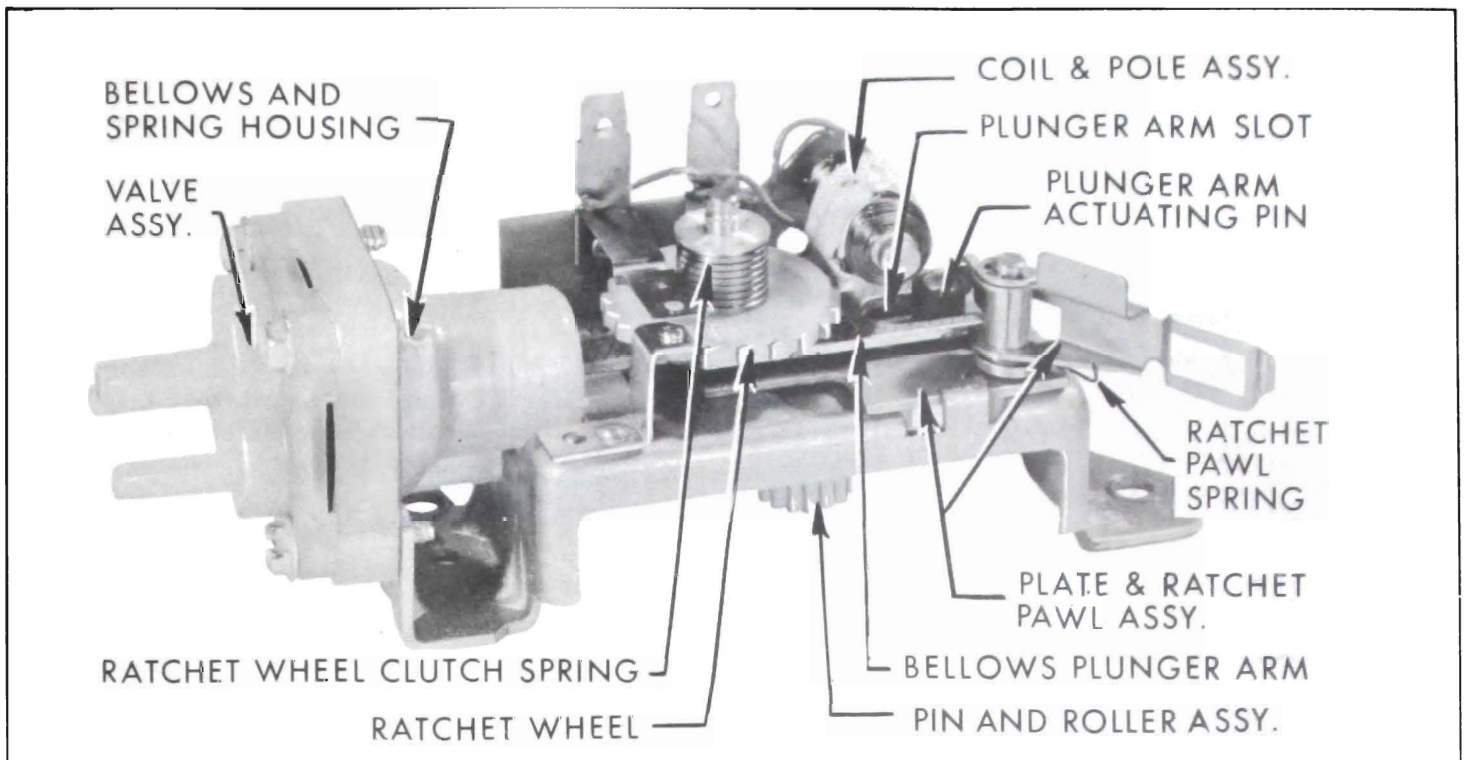
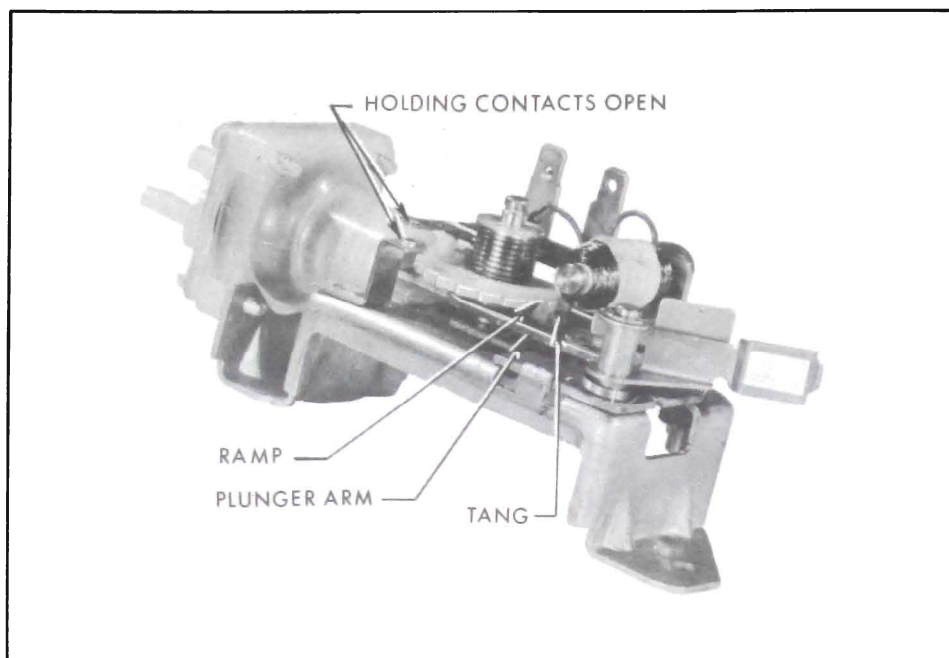

Figure 10-101—Washer Pump with Cover Removed
Figure 10-103—Washer Pump Actuating Mechanism
and ratchet wheel arrangement. See Figure 10-101.
Figure 10-101. Thus, with the wiper running, the 4 lobe cam rotates continuously and actuates the plate and ratchet pawl assembly back and forth in a horizontal plane. A second pin, attached to the plate and ratchet pawl assembly, extends through a slot in the bellows plunger arm. This pin moves freely back and forth in the slot while the pumping mechanism is in the "lock-out" position and no pumping action occurs.
The pump is in the "lock-out" position when the relay holding contacts are open and a tang on the plunger arm rests against the widest part of an eccentric ramp located on the lower surface of the ratchet wheel. (Figure 10-103). The tang holds the bellows plunger arm in a retracted position (bellows spring compressed) allowing the plunger arm actuator pin on the plate and ratchet pawl assembly (Figure 10-101) to move freely back and forth in the plunger arm slot and thus no pumping action occurs.
which is attached to the bellows, is pulled forward with the bellows and the back edge of the plunger arm slot moves up tight against the plunger arm actuator pin. (Refer to Figure 10-101 to identify plunger arm slot and pin.) The actuator pin, which was previously moving back and forth freely in the plunger arm slot, will now pull the plunger arm back and compress the bellows spring each time a lobe of the 4 lobe cam actuates the plate and ratchet pawl assembly.
As the ratchet wheel rotates the tang on the bellows plunger arm starts to ride up the eccentric ramp on the lower surface of the ratchet wheel. The full "lock-out" position of the pumping mechanism is reached when the tang is up on the widest part of the ramp. (Figure 10-103). The tang reaches the "lock-out" position at the same time the relay coil holding contacts open.
2. If relay and ratchet pawl perform correctly in Step 1, manually rotate the 3 lobe cam 1 lobe in a clockwise direction (looking at the cam). Observe if relay holding contacts close (Figure 10-105) and the pump plunger arm is released from its lock-out position. (Figure 10-103 shows plunger arm in lock-out position.)
4. If pump performs correctly in Step 3, manually operate pin and roller assembly until the ratchet wheel has been turned through 360° or 21 teeth. After the ratchet wheel has been rotated 21 teeth, the holding contacts should be opened by a ‘hump’ on the wheel and the pump plunger arm should be in the ‘lock-out’ position (Figure 10-103).